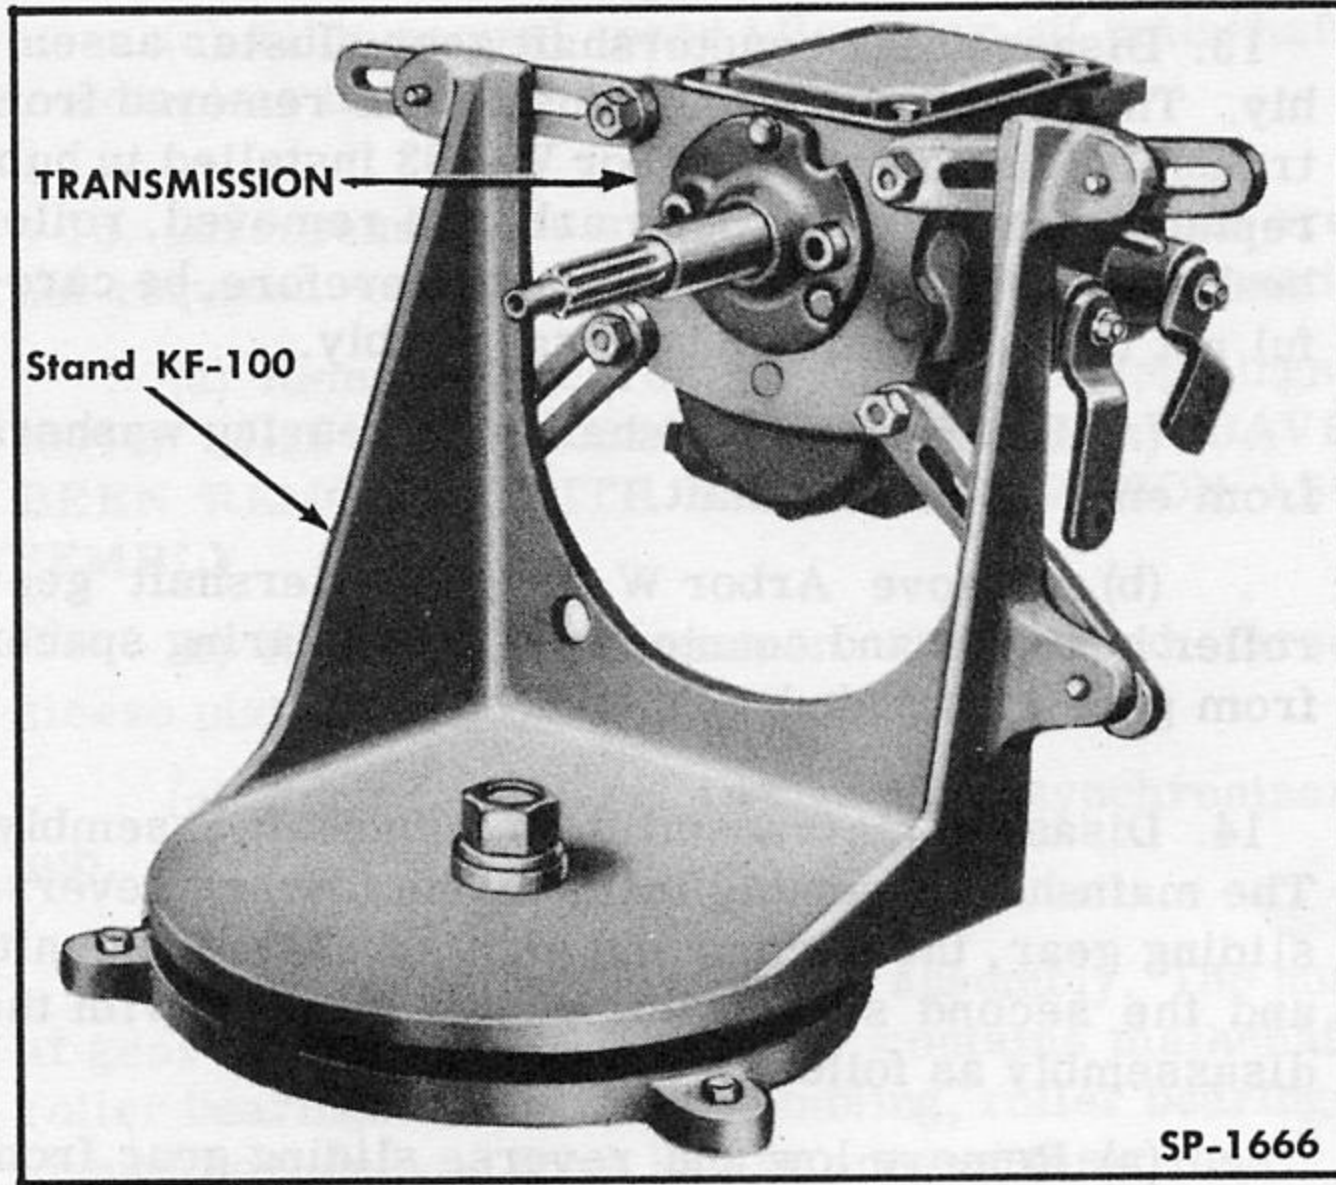

Fig. 125—Transmission Mounted in Fixture
1. Mount transmission on Transmission Repair Stand KF-100, (Fig. 125) or other suitable holding fixture. Remove screws and washers, cover and gasket.